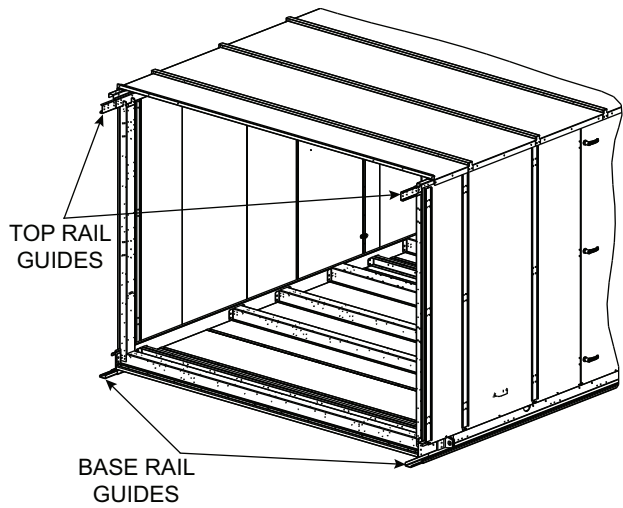

Fig. 35 — Base and Top Rail Guide Locations
4. Insert base rail guides into the base rails of the main unit section. Do not attach with screws yet. See Fig. 35 and 36.